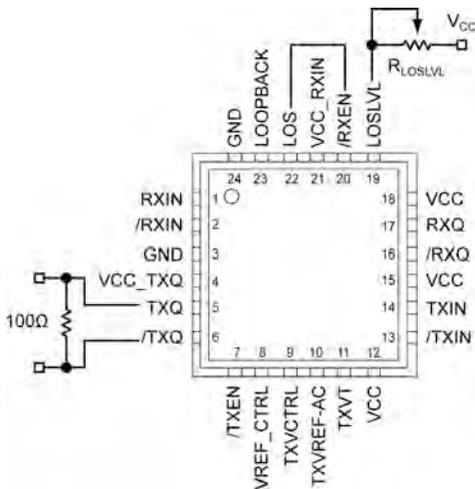

Figure 2b. Alternative Implementation
- Sensitivity of the LOS signal can be programmed using the LOSLVL input by using a variable resistor connected to VCC with a wiper connected to LOSLVL, as shown in Figure 2b